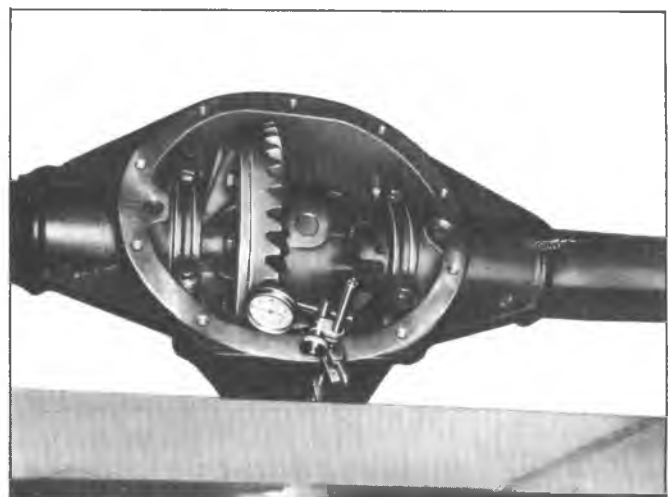

Fig. 10A—Checking Ring Gear Backlash
13. Mount a dial indicator on the carrier and check the backlash between the ring gear and pinion, as shown in Figure 10A. The backlash should be within the range of 0.005"-0.008". Check gear lash